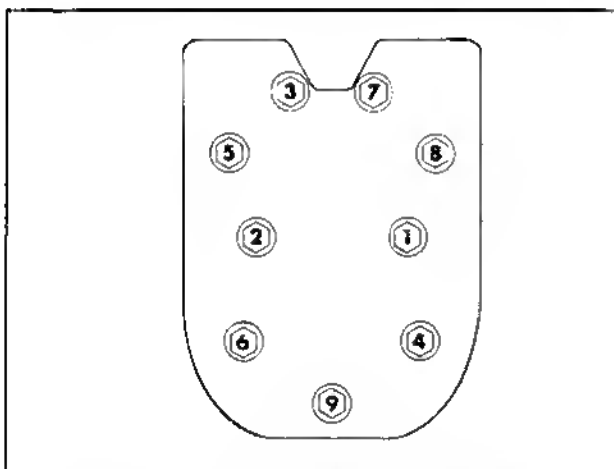

Figure 11-34. Cylinder Head Fastener Torque Sequence.
1. Install gaskets, cylinder heads, plain washers, and hex. cap screws (lubricate threads with oil). Torque hex. cap screws in increments in the sequence shown in Figure 11-34 to 15/20 ft. lb.